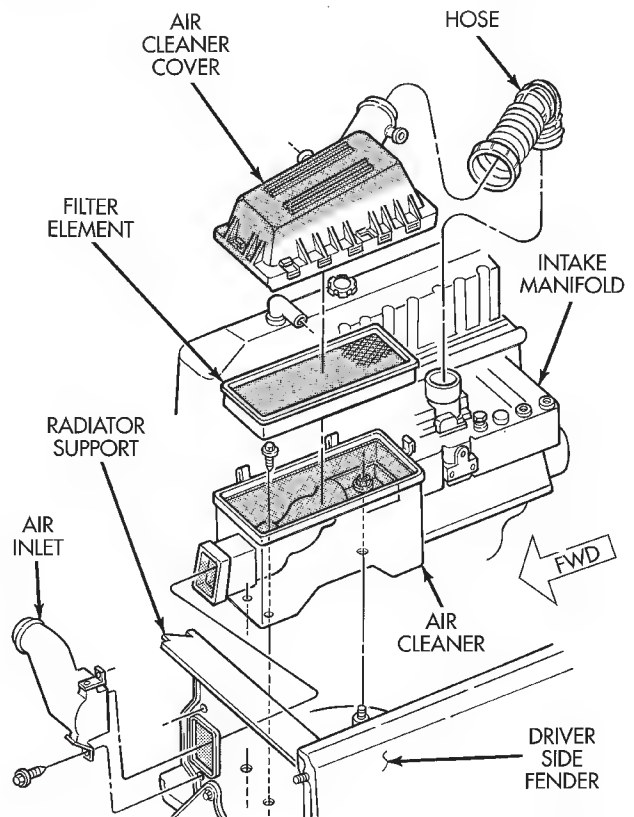

Fig. 17 Air Cleaner Components
(1) Disconnect vent hoses at air cleaner cover.
(2) Loosen clamp securing air cleaner hose to intake manifold. Use screwdriver to tap clamp loose.
(3) Remove air cleaner cover and hose. Then remove air filter from air cleaner shell (Fig. 17).
(4) Remove two bolts and one nut that secure air cleaner housing to body panel (Fig. 17).
(5) Remove air cleaner housing from engine compartment.